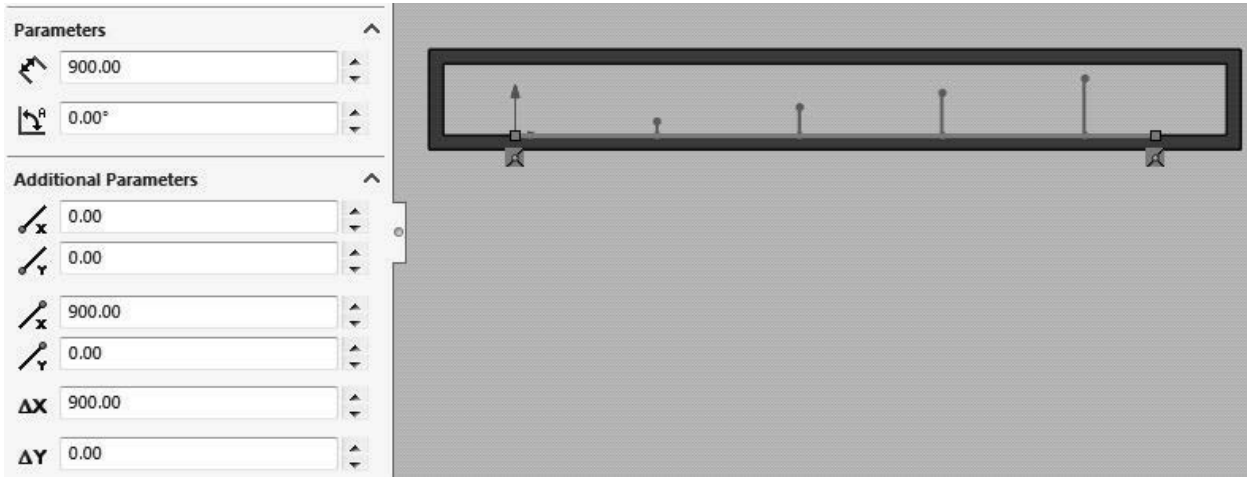

Figure 2.9 Sketch of a line in the X-direction
9. Click on the **Rebuild** symbol  in the SOLIDWORKS menu. Repeat step 6 and draw a horizontal line in the X-direction starting at the origin of the lower inner surface of the sketch. Set the **Parameters** and **Additional Parameters** to the values shown in figure 2.9 and close the **Line Properties** dialog and the **Insert Line** dialog. Click on the **Rebuild** symbol. Rename the sketch in the **FeatureManager design tree** and call it  $x = 0 - 0.9$  m.